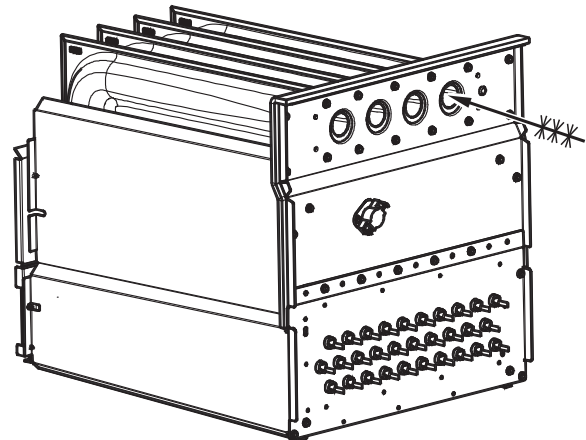

Fig. 59 - Cleaning Heat Exchanger Cell
7. Clean heat exchanger openings with a vacuum and a soft brush. (See Fig. 59.)